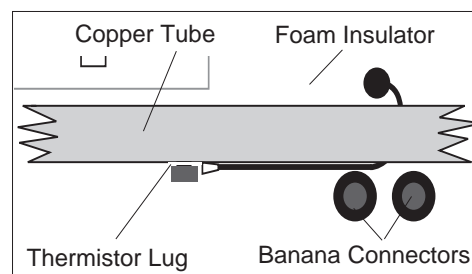

Figure 3 Thermistor Attachment
- ④ Place the foam insulator over the thermistor lug as shown in Figure 3.
- ⑤ Plug the leads of your ohmmeter into the banana plug connectors labeled THERMISTOR in the center of the expansion base.
- ⑥ Measure and record R_{rm} , the resistance of the thermistor at room temperature. Record this value in the table.
- ⑦ Use tubing to attach your steam generator to the end of the copper tube. Attach it to the end farthest from the dial gauge.
- ⑧ Use a book or a block of wood to raise the end of the expansion base at which steam enters the tube—a few centimeters is sufficient. This will allow any water that condenses in the tube to drain out. Place a container under the other end of the tube to catch the draining water.
- ⑨ Turn the outer casing of the dial gauge to align the zero point on the scale with the long indicator needle. As the tube expands, the indicator needle will move in a counterclockwise direction.
- ⑩ Turn on the steam generator. As steam begins to flow, watch the dial gauge and the ohmmeter. When the thermistor resistance stabilizes, record the resistance (R_{hot}) in Table 1. Also record the expansion of the tube length (ΔL) as indicated by the displacement of the indicator on the dial gauge. (Each increment on the dial gauge is equivalent to 0.01 mm of tube expansion.) Note that ΔL is the difference between the dial gauge readings.